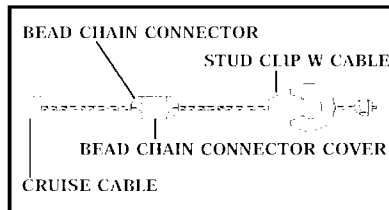

Figure 19
2. Slide a BEAD CHAIN CONNECTOR COVER over the CRUISE CABLE, then attach the BEAD CHAIN CONNECTOR to the cable. Attach the STUD-CLIP W CABLE to the BEAD CHAIN CONNECTOR and slide the CONNECTOR COVER over the BEAD CHAIN CONNECTOR. **Figure 19**